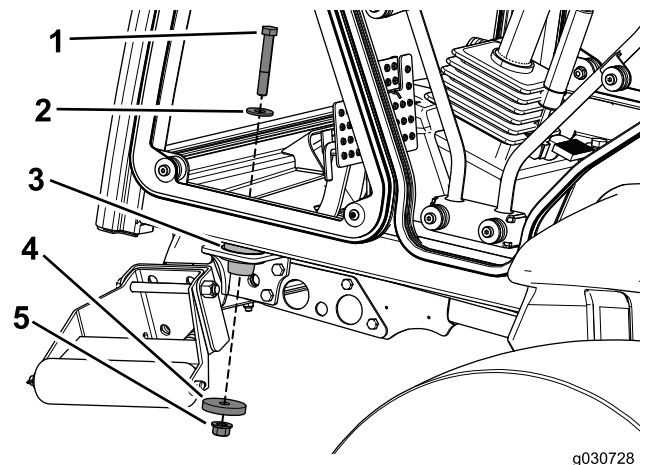

Figure 25
5. Use a bolt (1/2 x 3-1/4 inch), a washer (1-3/8 inches) diameter, a washer (2-1/4 inches) diameter, and locknut to secure the cab to the front mounts on the machine (Figure 25).